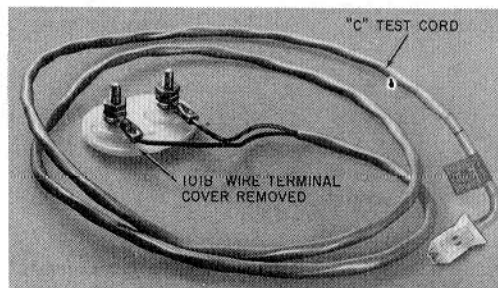

Fig. 7—C Test Cord and Terminal Block
2.10 The C test cord (Fig. 7) is attached to a wall-mounted 101B2 wire terminal, located so the cord plug will reach all 88-type blocks, and is left in place for testing purposes. The cord is now made in 4- and 8-foot lengths to facilitate reaching all terminations in large distributing fields.